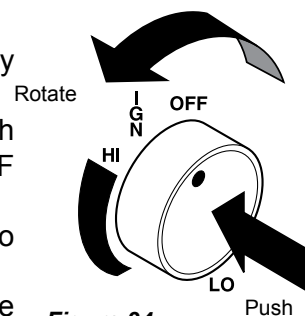

Figure 34 -
6. From OFF position, push in gas control knob slightly and turn counterclockwise  to the IGN position. Figure 34. Push in and hold control knob for 5 seconds.